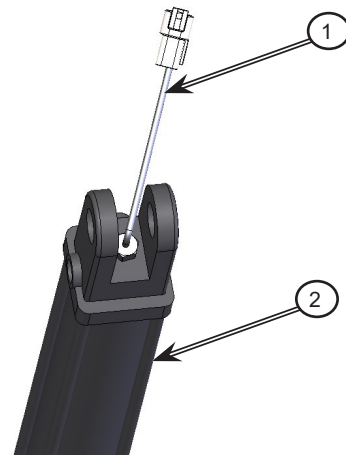

Figure 4: Set up the new cylinder
1. Set up the new hydraulic cylinder by installing the new smart sensor (1) within the cylinder (2), as shown in *Figure 4*.